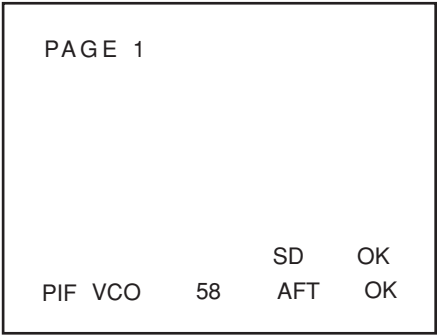

Fig. 1-5
- Use the volume keys on the jig remote controller to adjust the status of AFT on the screen to “OK”. Fig. 1-5